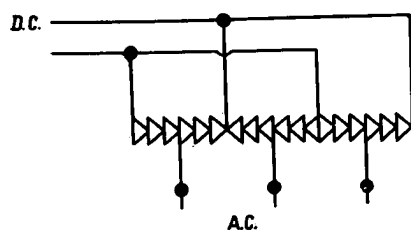

Fig. 2. Connection Diagram of Selenium Rectifier
6. Wrong connection of selenium piles to each other or to transformer (after repair).	6. Check rectifier connections according to diagram (Figs. 2 - 3) and check voltage on rectifier side by supplying voltage to transformer.